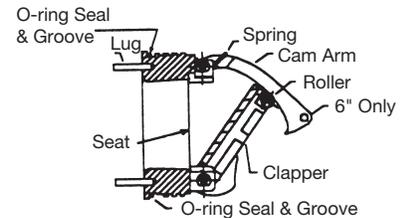
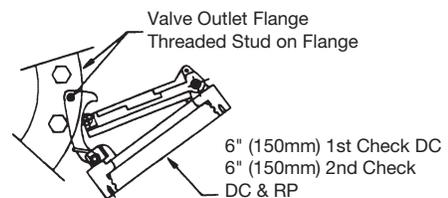

Figure 5A
Figure 5B
3. To clean #1 Cam-Check (except 2½" – 4" (65-100mm) DC Check), locate the Cam Arm opening stud on the outlet flange of the valve assembly. Slide the Cam Arm over the stud with the check threads facing downward (Figure 5A). Tighten ¼" nut on stud to secure cam bar. Slowly pull the assembly outward to open check. The clapper so that the end of the Cam Arm rests between roller and clapper (Figure 5B).